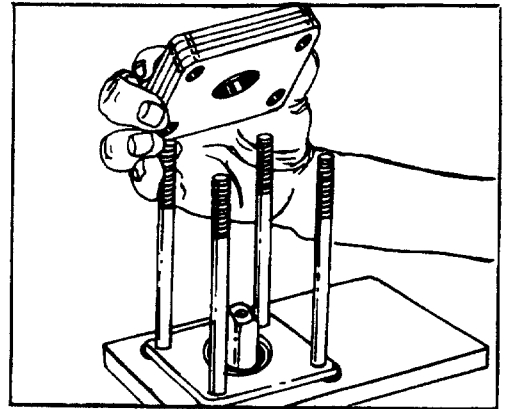

FIGURE 34.
42. Remove the upper cover plate (32) (four plates bonded together). Inspect the upper cover plate. You should notice some polishing due to the action of the seal. The plate should be free of brinelling (dents) or spalling (flaking). If it is damaged, the upper cover plate must be replaced. See figure 34.